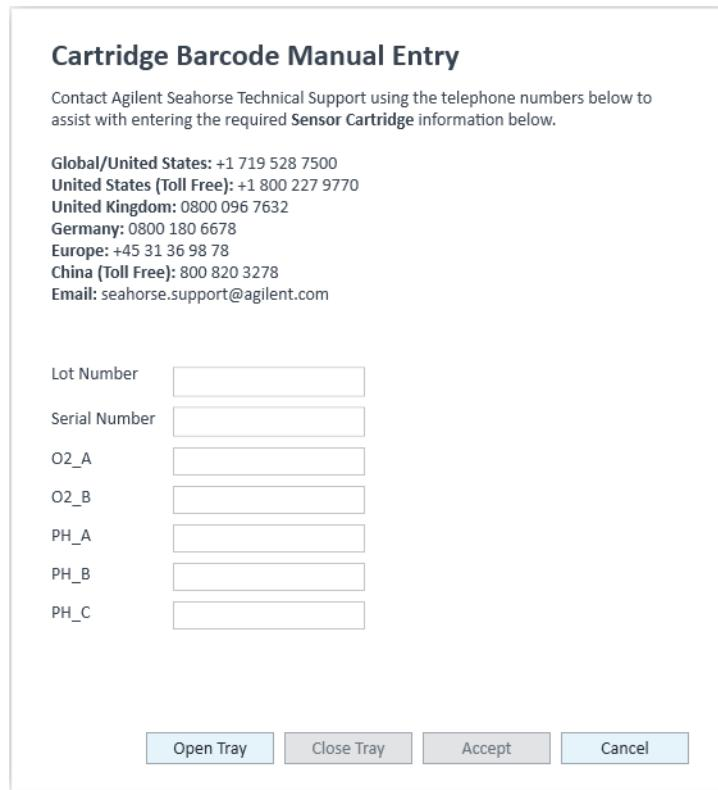

Figure 14. Cartridge Barcode Manual Entry window
- 2 Call the appropriate regional Agilent Cell Analysis Technical Support telephone number on the Cartridge Barcode Manual Entry window for assistance with entering the Sensor Cartridge barcode info. (See **Figure 14**.)
- 4 Click **Close Tray**. The Cartridge Barcode Manual Entry window appears. (See Figure 14 on page 34.)